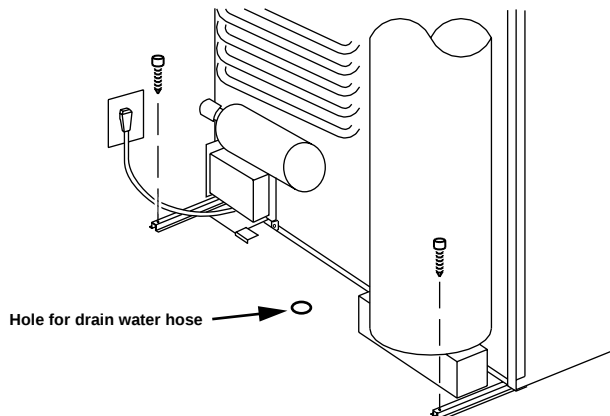

FIG. 8
STEP 3: Two screws installed in the rear base. See FIG. 8
A hole must be drilled through flooring see FIG. 8. The installer **MUST** make sure that the hose does not kink when run through the floor. Seal around the hose that goes through the drilled hole. If a longer hose than supplied is required to get the water to drain outside of the vehicle, the installer will have to supply the extra length of hose.